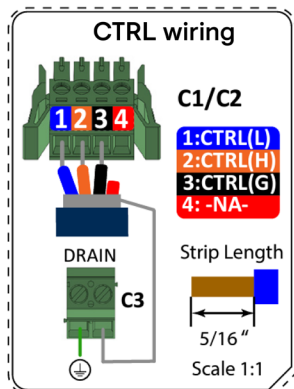

Figure 3: Control header connection
- The drain cable of the shield (marked as drain in Figure 3).